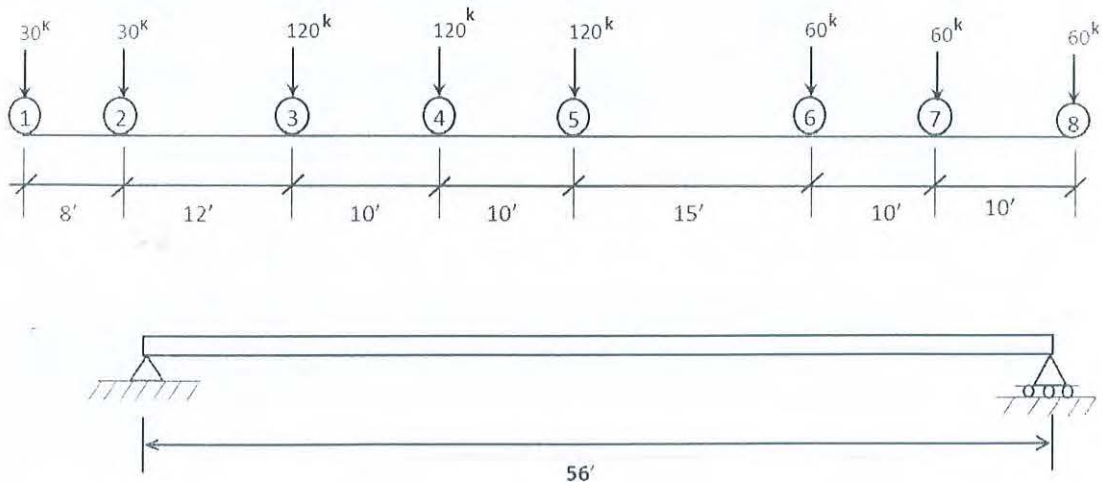

Figure 2
2. Analyze the simply supported girder shown in **Figure 2** for the following wheel load and Calculate the Maximum Shear at Quarter point from left support of the girder. [13]